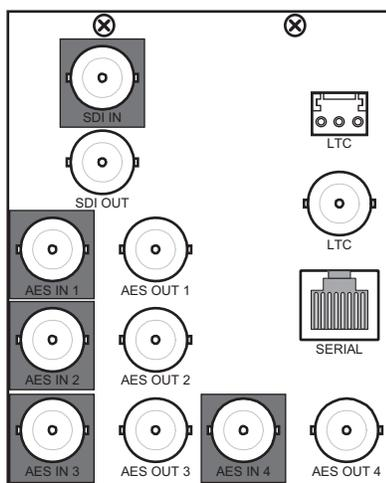
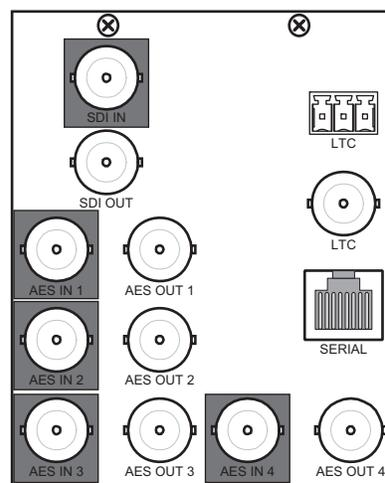

Figure 5 Cabling for the 8320AR-060
Figure 6 Cabling for the 8320AR-060A
The NWE-3GA is used with the 8320AR-060 rear module in the openGear frame. Each rear module occupies four slots and provides one SDI input, one SDI output, four unbalanced AES3id inputs, four AES3id outputs, a balanced LTC connection, an unbalanced LTC connection, and a serial communications port. Refer to **Figure 5** and **Figure 6** for connector locations.
1. Connect the appropriate input AES sources to the **AES 1-4** BNC connectors. Refer to **Figure 5** and the rear module label for connector locations.
1. Locate the LTC ports on the 8320AR-060 rear module. Refer to **Figure 5** and the rear module label for connector locations.
- the location of the **Serial COM** port on the rear module, refer to **Figure 5**.
1. Connect the automation computer to the **Serial COM** port on the 8320AR-060 rear module using the **Serial Interface Cable**. Refer to **Figure 5** for the port location.